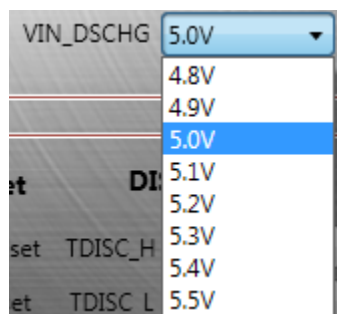

Figure 22: OTG Output Voltage Regulation Setting
5. Set the OTG output voltage regulation threshold (see Figure 22). It ranges between 4.8V and 5.5V, and the default value is 5.0V.